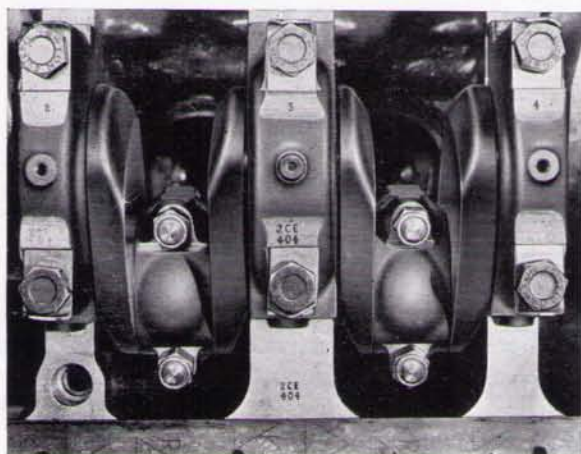

Fig. L.2.
The caps must always be replaced in their correct position on the cylinder block and the correct way round. Each cap is numbered with its appropriate position to the block with No. 1 at the front of the engine. On each cap also is stamped, a serial number. This number will be seen stamped on one side of the bottom face of the cylinder block, and the serial number on the cap must be on the same side as this. See Fig. L.2.
3. Remove the top half of the bearing by rotating it on the crankshaft applying a suitable soft tool, (e.g. wood), to the side opposite the locating tongue. See Fig. L.2. The main bearing locating recesses are machined in the cylinder block on the camshaft side.